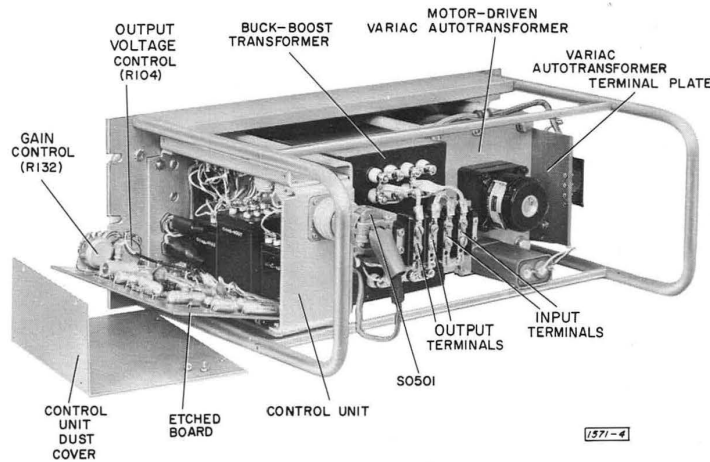

Figure 4-1. Rear view of regulator with dust cover removed and etched board swung out for access to components and wiring.
To utilize the remote-sensing feature, the cable-mounted female plug, SO501, at the rear of the control unit (see Figure 4-1) must be disassembled. On type 1571 Regulators, remove the jumper between terminals E and F and between terminals H and J on SO501. Connect the remote-sensing line to terminals F and H. The connection need not be heavy, as only a few milliamperes of current will be drawn.
The regulated output voltage can be varied by an external variable resistor. Connect the resistor from pins A and B to ground on the control-unit connecting plug, SO501, (see Figure 4-1) on the Type 1571 Regulators and between pins #2 and #3 and ground on the Types 1581 and 1582 models. To ensure full-range adjustment, set the OUTPUT VOLTAGE control at its maximum counterclockwise position.
If an external detector is used, it should provide a well-filtered signal of approximately +9 volts with respect to ground. For the Type 1571 Regulator, remove the jumper between pins A and B of SO501 (see Figure 4-1) and apply the signal from the external detector to pin B. For Types 1581 and 1582, remove the jumper between terminals #2 and #3 and apply the detector signal to pin #3.
An RC filter with a broad notch is used to reject the ripple component of the detector output voltage. It is factory tuned by means of a 54-cycle input line. This adjustment should not be disturbed unless it is absolutely necessary. On the Type 1571-A Regulators, this tuning is fixed; no further adjustment is possible. On the Types 1581-A and 1582-A models, the notch frequency can be shifted slightly by readjustment of resistor R105 on the etched-circuit board (Figure 4-5). Proper tuning is indicated by minimum input power on a 0-50 wattmeter with no load connected to the regulator output. Proper tuning is also indicated by the minimum steady-state ac voltage between anchor terminals #10 and #11 on the terminal plate of the Variac autotransformer (Figure 4-1).
All wiring is easily accessible to bench servicing; no sub-assemblies need to be removed from the front panel. To remove the dust cover from the control unit (Figure 4-1), remove two screws from the top and two from the side of the unit. Remove only the two screws at the top of the etched-circuit board. This allows the board to swing down, exposing all components and the wiring of the control unit. Removal of four 1/4-inch bolts in the front panel will allow removal of the control unit from the regulator, if necessary.
8. Measure the motor voltages at the Variac autotransformer terminal plate (see Figure 4-1). The voltage between terminals #8 and #9 should be 105 volts, ac. The voltage between terminals #10 and #11 should be approximately 22 volts, ac, over most of the dial range and should give a minimum at some intermediate dial setting.